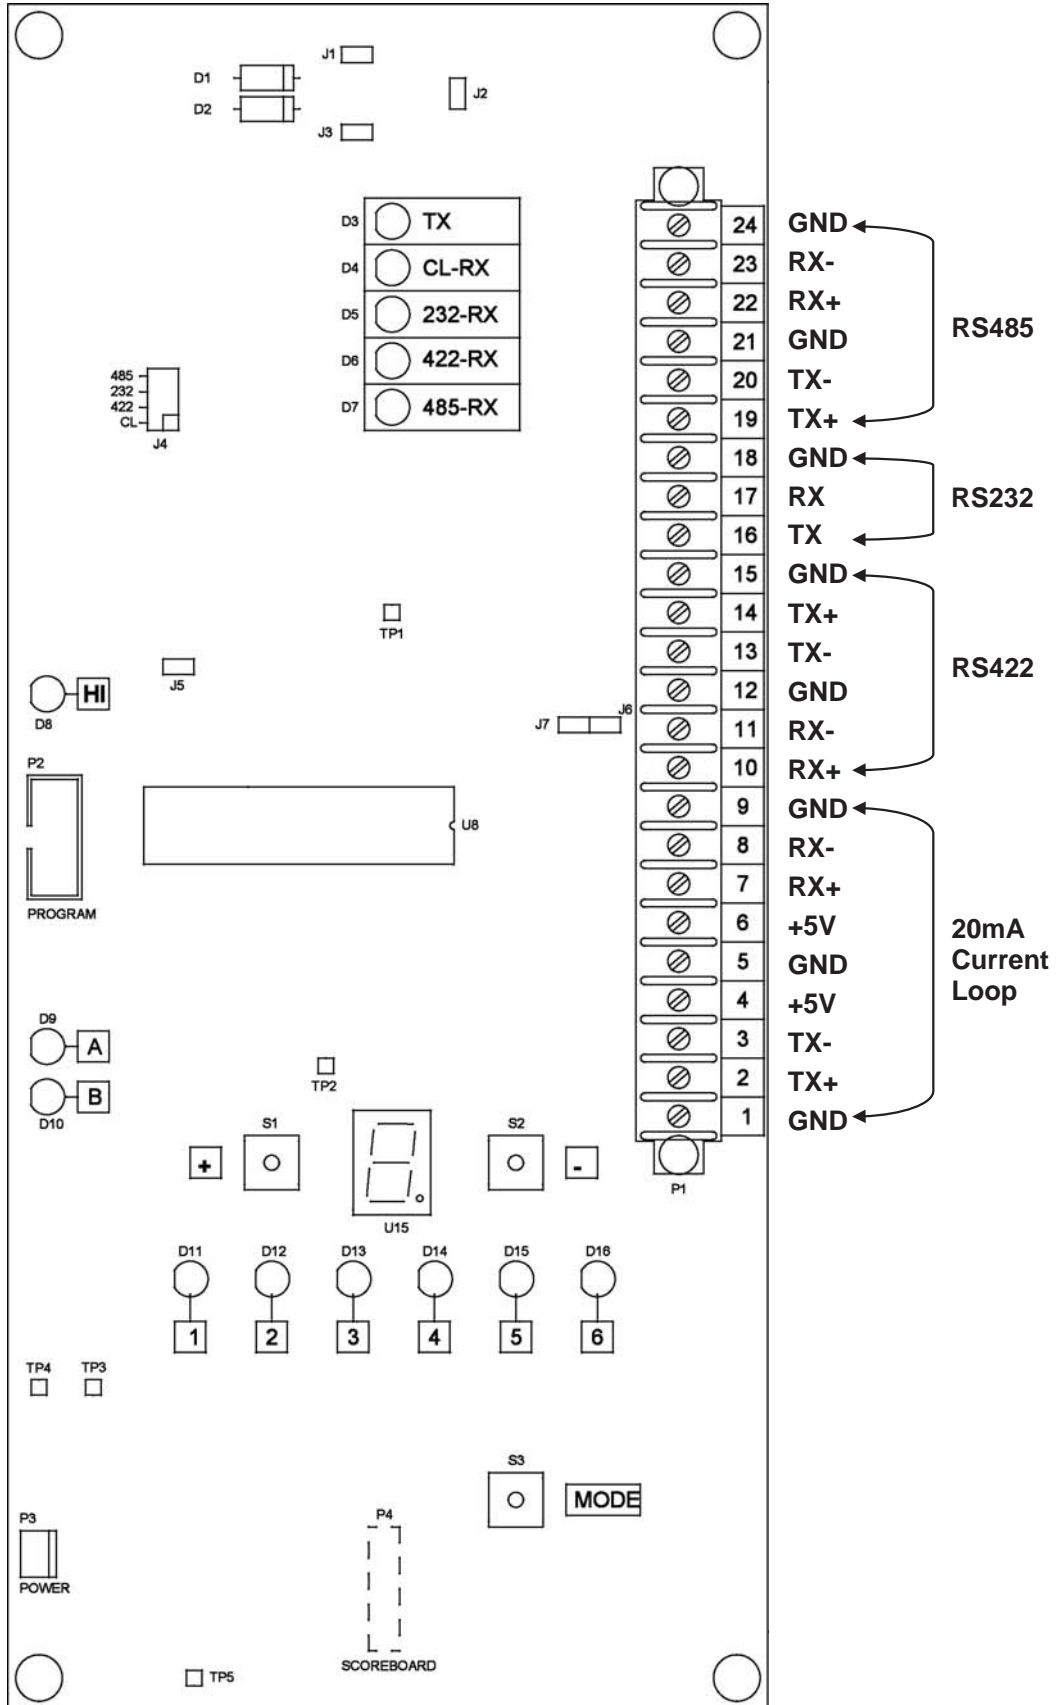

Figure No. 5
P1 = 24 terminal connector for serial cable connections. Refer to Figure No. 5.
4. Referring to Figure No. 5 for the location of the terminal block and for the correct terminal connections, connect each of the wires to the terminal block.
- Referring to Figure No. 5 for the location of the terminal block and for the correct terminal connections, connect each of the wires to the terminal block.